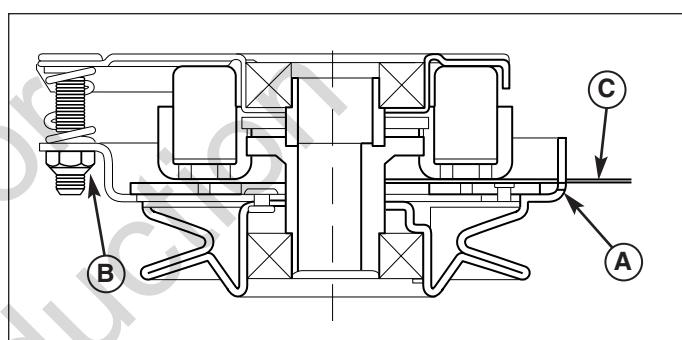

Figure 35. Adjust PTO Clutch
3. Insert a .012"-.015" (2.5-4 mm) feeler gauge (C) through each window, positioning the gauge between the rotor face and the armature face as shown in Figure 35.